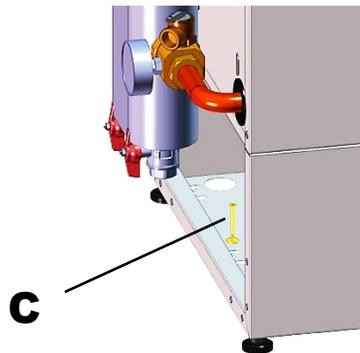

Figure 3-5: Removing the Unit rear from Wood Pallet
3. Remove the screw and washer “C” (Figure 3-5), which fastens the pallet to the unit rear.